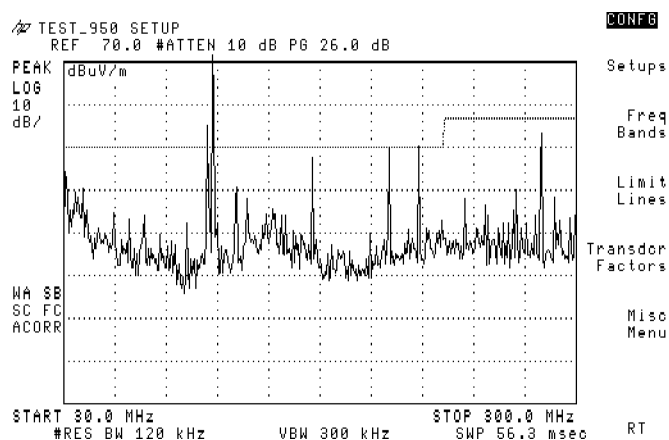

Figure 3-40. CSPA R 3 Loaded into the Analyzer
- Press **Load Setup**, which loads the proper frequency range, bandwidths, limit lines, transducer factors, preamp gain, and attenuation into the spectrum analyzer. See Figure 3-40.